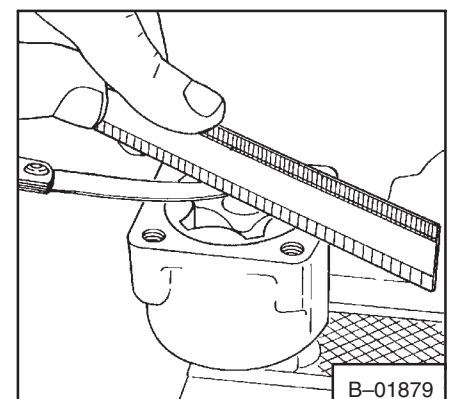

Fig. 7-66 Oil Pump Rotor Clearance
- (c) Check the clearance between the rotors and the end cover assembly using a straight edge and feeler gauge (Fig. 7-66).